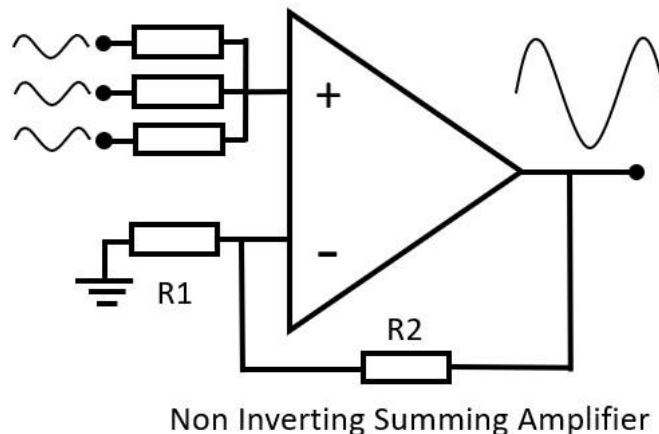

Figure 5: Non-inverting summing amplifier.
4. **The non-inverting summing amplifier** is used to combine the voltages present on two or more inputs into a single output voltage. As it is noninverting, the output will be in phase with the input. The gain of the amplifier is determined by the ratio of  $R_1$  and  $R_2$  (Figure 5).